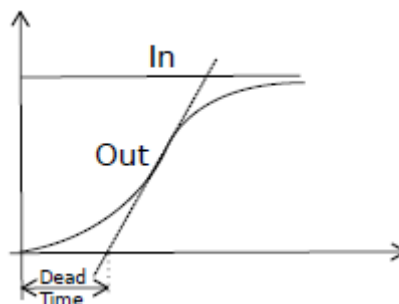

Figure 2: How to estimate dead time of a second-order system
- Lambda tuning requires us to measure the process dead time, this can be performed as illustrated in figure 2 and on page 197 in Thomas. First, find the steepest part of the step response curve. Second, draw a tangent to this part of the curve. Last, measure the
Estimate the dead time and time constant as illustrated in Figure 2, also estimate the amplification and then get  $A_m$  and  $\omega_\pi$  from Matlab. Use the following matlab commands to calculate  $A_m$  and  $\omega_\pi$ .